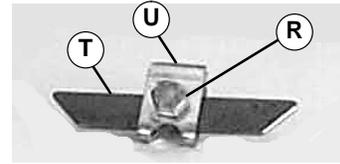
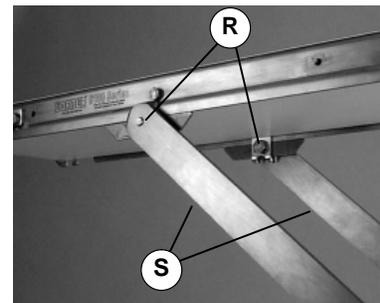

Figure 26
Figure 27
1. Assemble mounting clip (U), guard plate (T) and screw (J) as shown (Figure 26).
2. Attach clip assemblies to conveyor. Attach diagonal braces (S of Figure 27) to clip assembly (Figure 26) with screws (R).